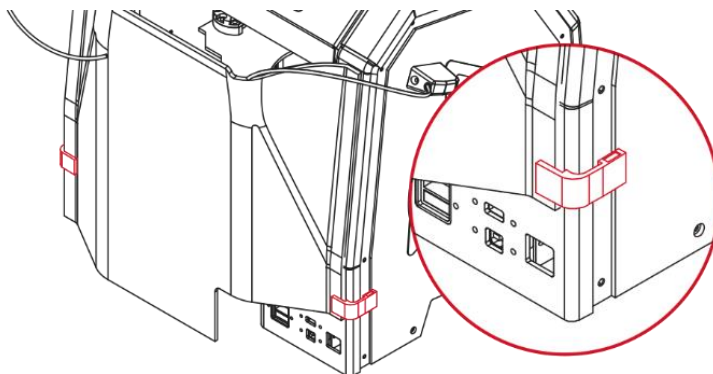

Fig. 69 Mounting the clips on the rear enclosure part
5. Mount the clips on the rear enclosure part. The side of the magnetic clips should fit into the recess on the printer (fig. 69).